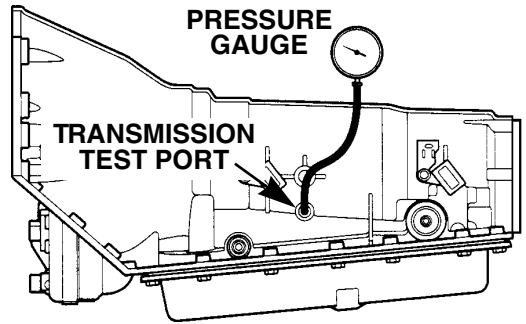

Figure 16. Pressure Gauge
3. Connect pressure gauge to transmission test port (Figure 16). Gauge must have 325-350 psi (2240-2413 kPa) capacity.